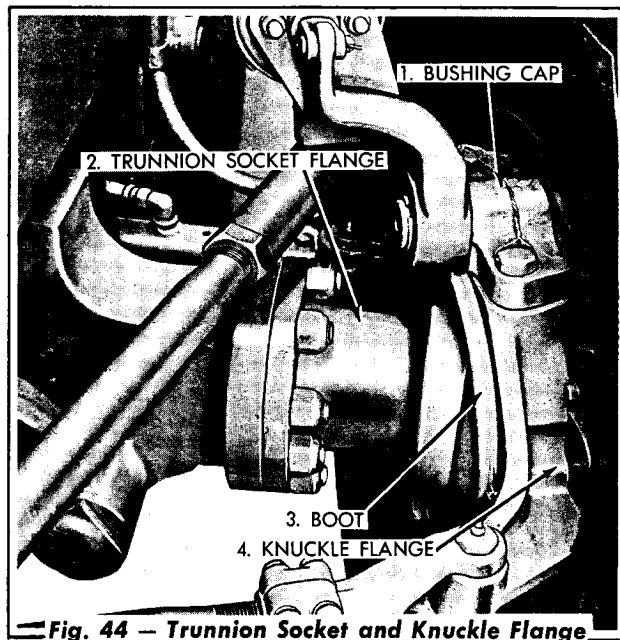

Fig. 44 - Trunnion Socket and Knuckle Flange
- a. If axle has not been removed from the machine, disconnect the steering arm linkage and the tie rods (refer to Topic 2 and Fig. 44).
- e. Remove the nuts, the lockwashers, and the capscrews that secure the trunnion socket flange to the axle housing flange (Fig. 44). Then remove the knuckle flange assembly.
- b. Remove the upper and lower bushing cap-screw lockwires, the capscrews, the bushing caps, and the shims (Figs. 44 and 45).